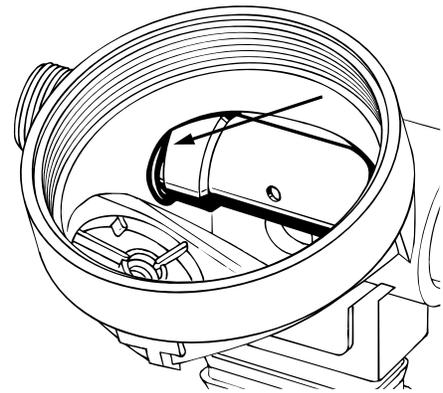
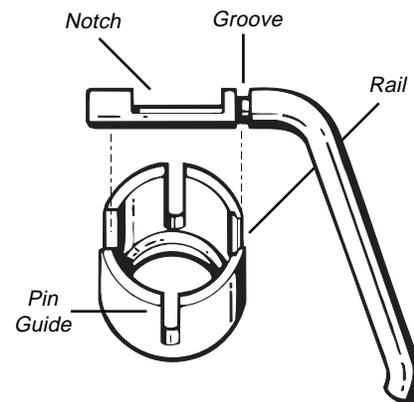

Fig. 17 - Valve Body O-ring Bind-Up
Fig. 18a - Lever Retaining Sleeve Features
CAUTION: Do not apply undue force to press the valve body into place. Doing so may cause the O-ring(20) to bind up and become unseated, which may allow water to leak into the box bottom (see Fig. 17). If bind up occurs, remove the valve body and check to ensure that the O-ring has been dressed with a sufficient amount of silicone grease.
17. Thread the hex nut(13) clockwise by hand onto the inlet of the valve body, with the shoulder side facing in towards the box bottom. While holding the box bottom secure, apply a torque wrench with $\frac{3}{4}$ ' crow-foot to tighten the hex nut snug to a torque measurement of 45-55 inch-lb.'s.
18. Before proceeding, it is important to become completely familiar with the relationship of the lever(5) and the lever retaining sleeve(27). Closely read the instructions given in steps a-c before performing any further assembly. Carefully follow each step, and refer to the corresponding illustrations for further clarification.
- a. Stand the retaining sleeve vertical, so that the slotted end faces up. Closely examine the sides of the lever retaining sleeve(27) to identify the four open channels which are offset from each other by 90 degrees. Locate the widest channel, and then the channel which faces opposite of it by 180 degrees. Closely examine the inner barrel of the sleeve around this channel to see that it contains a stepped rail which engages with the lever (see Fig. 18a).